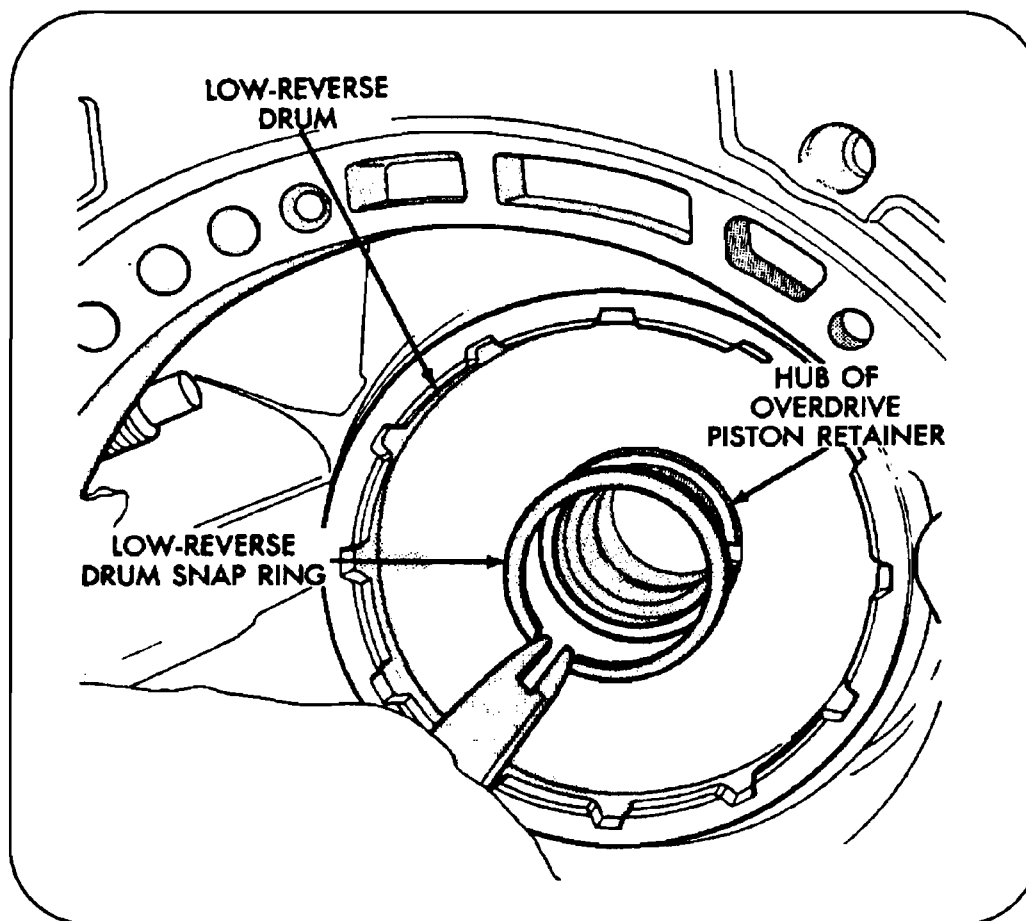

Figure 91
**Change:** A running change was made to the low/reverse drum where the snap ring retains the drum to the OD Piston retainer. Previous models had a washer located between the snap ring and drum. The new design eliminates the washer (See figure 91). To determine if your drum takes the washer, there will be an inside step machined into the drum to accommodate the washer. If the drum has a flat face, no washer is required.